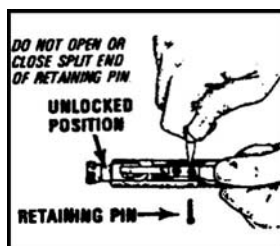

Figure 12. Removing the firing pin retaining pin.
- j. Remove the firing pin retaining pin (Figure 12).